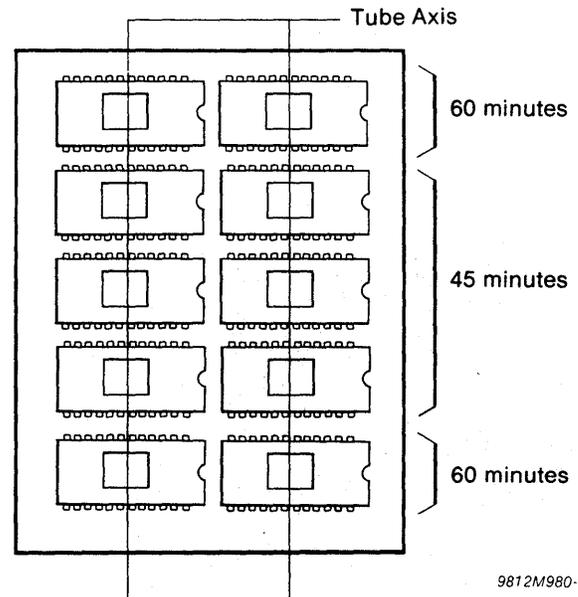

Figure 19-3. Recommended PROM Arrangement and Erase Times**
1. Proper PROM erasure is the result of timed exposure to a UV light source of critical wavelength and intensity (see Figure 19-3).
- e. Up to 10 24-pin or 28-pin PROMs can be erased using the arrangement shown in Figure 19-3.